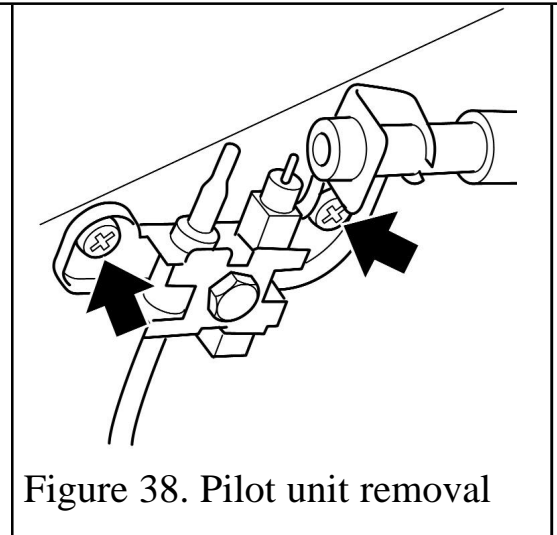

Figure 38. Pilot unit removal
6. Remove the two screws securing the pilot unit (See figure 38).